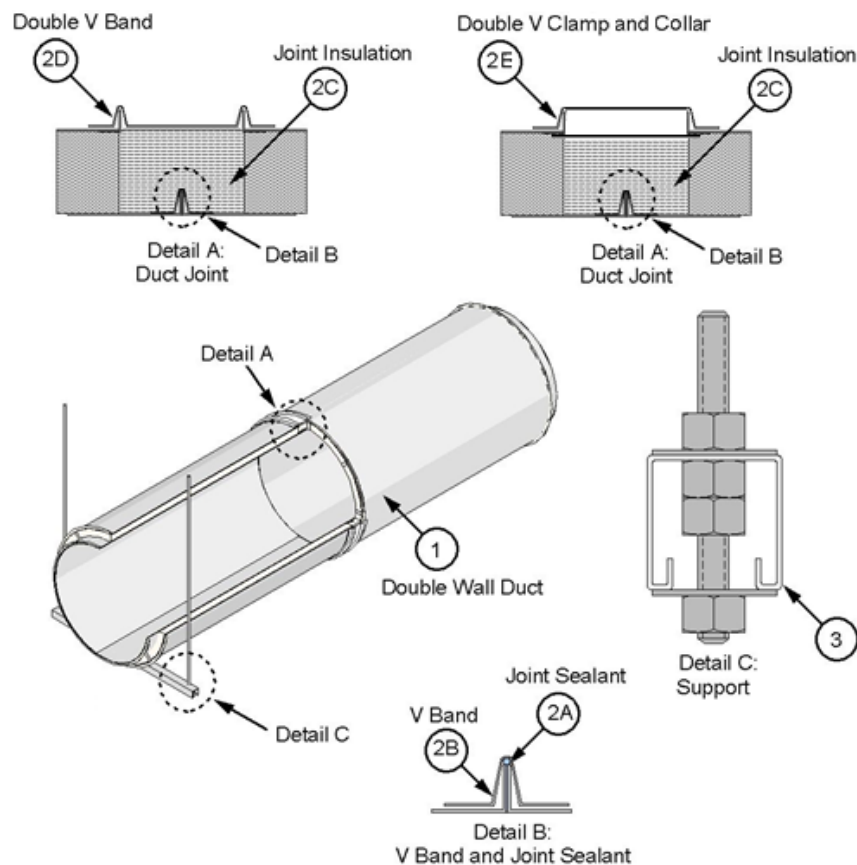

Figure 1. Double Wall Duct and Horizontal Support
- B. **V BAND** – Use the supplied V band (see Figure 1). Place the loose V band, filled with joint sealant (Item 2A), over one of the inner duct flanges. Join to the other inner duct flange with the continuous bead of joint sealant (Item 2A) and rotate slightly to ensure complete coverage of joint sealant (Item 2A) on flanges. Ensure that the flanges are located within the V band and that the V band hardware is not at the bottom side of a horizontal duct. Tap the V band while tightening the integral 1/4-20 hardware to ensure flanges are aligned and pulled together. Tighten to 40-60 in.lbs.
- D. **DOUBLE V BAND** – Use the supplied double V band (see Figure 1) for grease duct diameters ≤ 24 in. Place double V band with the grease duct outer shell flanges seated in the V band; tighten integral 1/4-20 hardware to 40-60 in.lbs.
- E. **DOUBLE V CLAMP AND COLLAR** – Use the supplied double V clamp and collar (see Figure 1) for grease duct diameters > 24 in. Use the sheet metal collar to retain the joint insulation; overlap collar ends and fasten together with min. two min. size #6 sheet metal screws. Place double V clamp with the grease duct outer shell flanges seated within the clamp recess; tighten integral 1/4-20 hardware to 40-60 in.lbs.
- A. **HORIZONTAL SUPPORTS** – Support the pre-fabricated grease duct (Item 1) using min. 12 GA, 1-5/8 in. x 1-5/8 in. Unistrut® channel or 2 in. x 2 in. x 1/4 in. steel angle as the supporting cross-member and two min. 1/2 in. diameter, threaded steel rods connected using Grade 5 hex nuts and 1/2 in. hardened washers (see Figure 1, Detail C). For grease duct diameters > 24 in., use supplied 12 GA steel saddles fastened to the Unistrut®